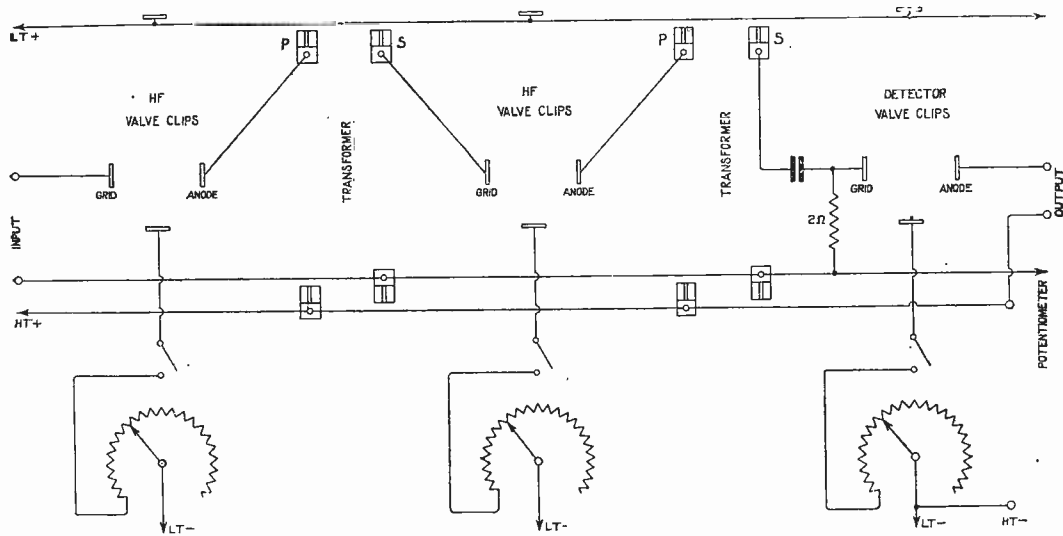

Fig. 9. Wiring lay-out of the H.F. Amplifier showing the special arrangement of the leads.
*Panel A.*—A photograph of this appears in Fig. 8, and the scheme of its wiring in Fig. 9. It will be noted that low capacity has been the aim throughout.